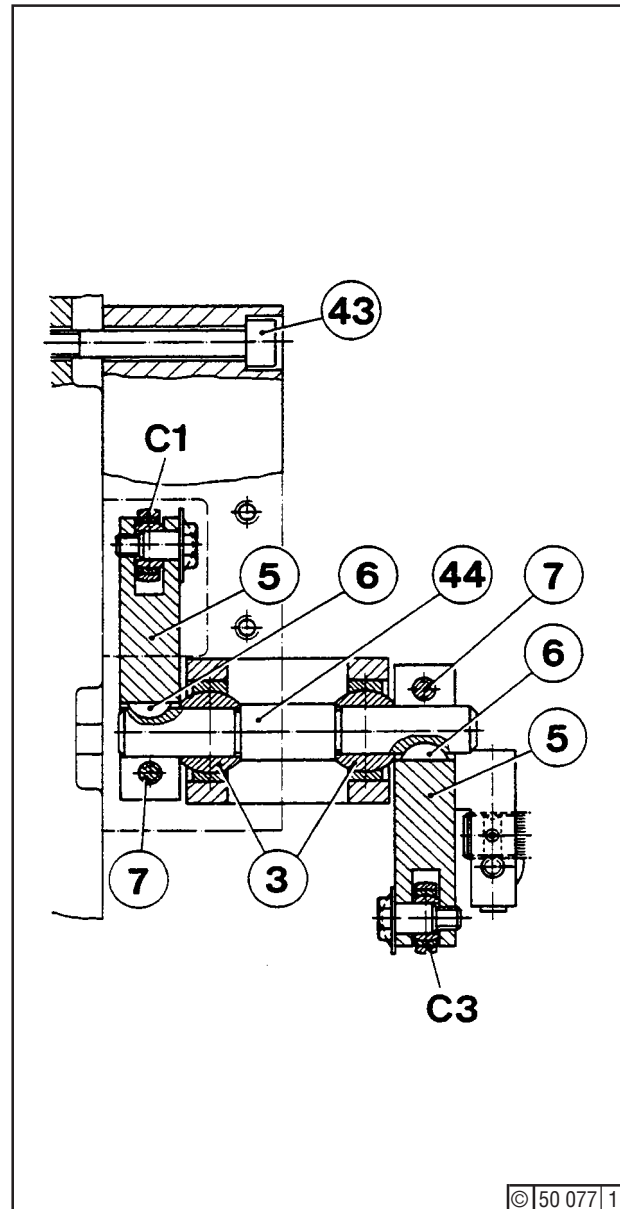

Fig. 6
Release link rods C1 and C3 - Fig. 6 - at the levers (5), as described under "Renewing Link Heads". Unlock hex. bolts (7) and remove.